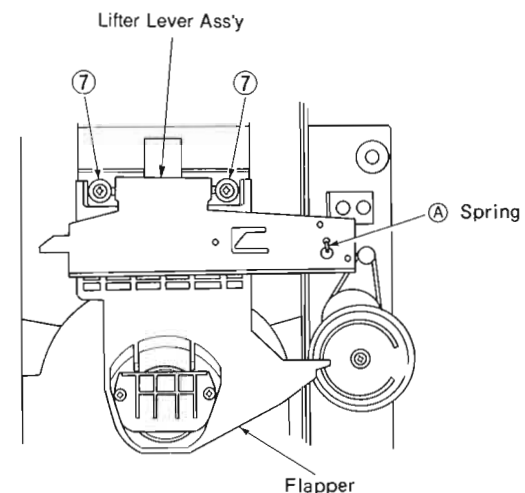

Fig. 4
- Remove spring (A) in Fig. 4.
- Remove 2 screws (⑦) in Fig. 4, and then remove the Flapper and lifter lever assembly.
- Aの(Spring)をはずす。(Fig. 4)
- ⑦のネジ2本をはずし、フラッパー及びリフターレバーAss'yをはずす。(Fig. 4)